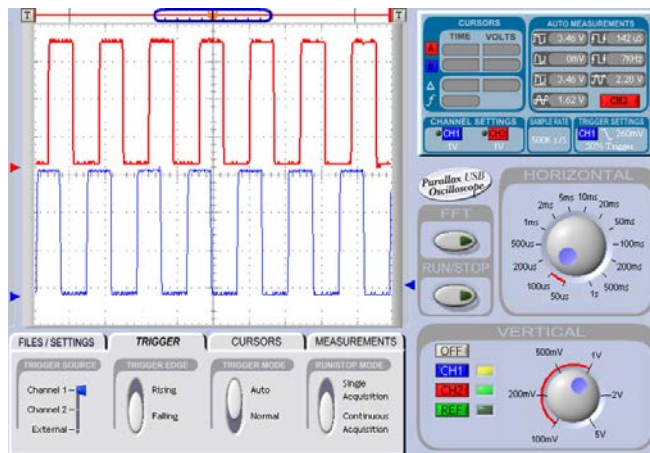

Figure 2.3-2
7. Change the horizontal time to 100us. The ideal waveforms are shown in figure 2.3-2. The pattern should be evenly split between high and low states. The two channels should be shifted $\frac{1}{4}$ cycle.